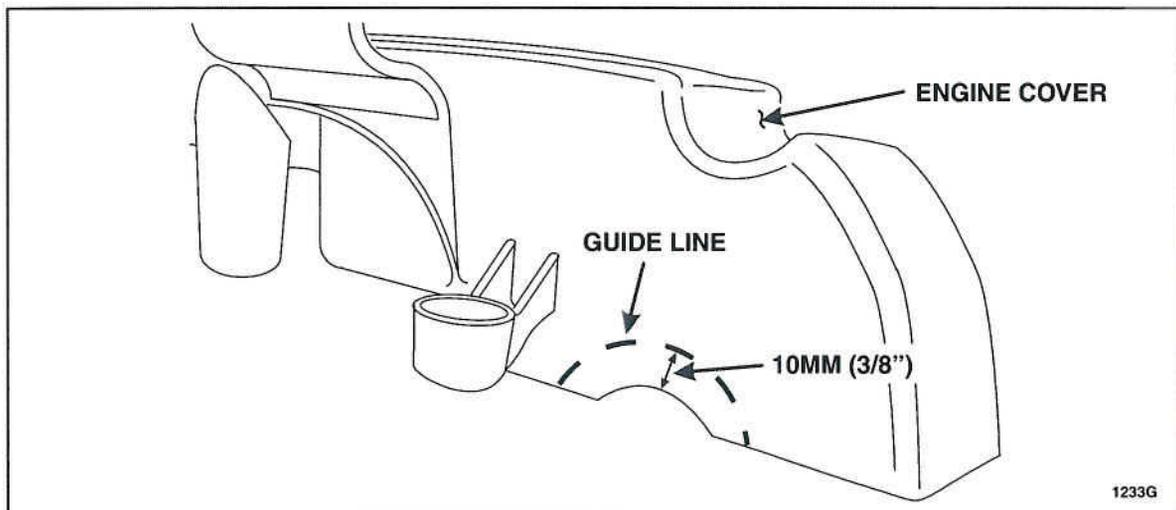

FIGURE 3
4. Mark a guide line on the engine cover that is approximately 10mm (3/8") larger than the original opening. See Figure 3.